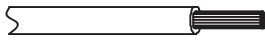

Fig. 20 — Stripping The Wire
2. Strip a suitable length of the insulation layer as shown in Fig. 20 below.